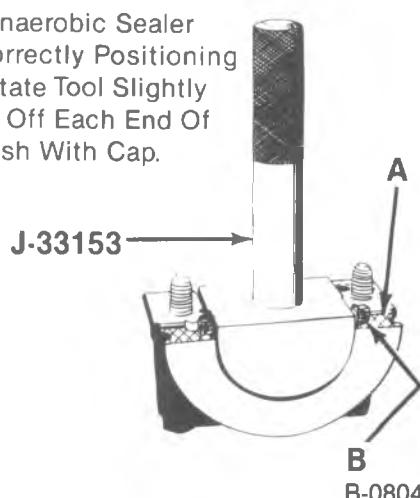

Figure 31—Installing the Lower Seal Piece
- Use J-33153 to install the seal (figure 31).